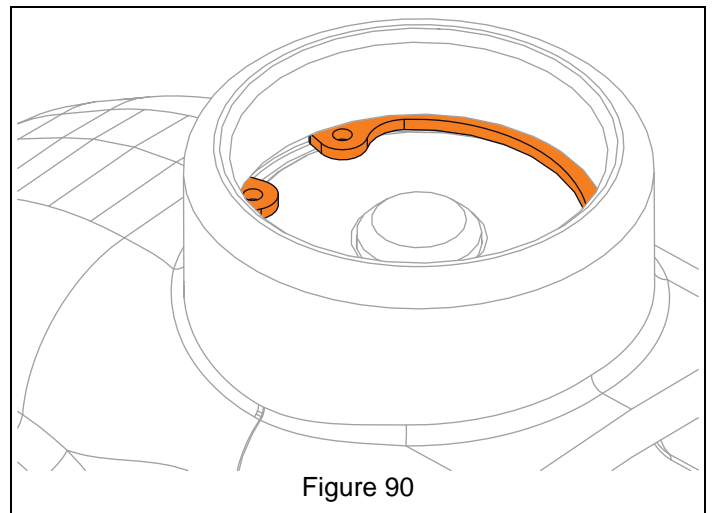

Figure 90
9. Reinstall retaining ring. See Figure 90.